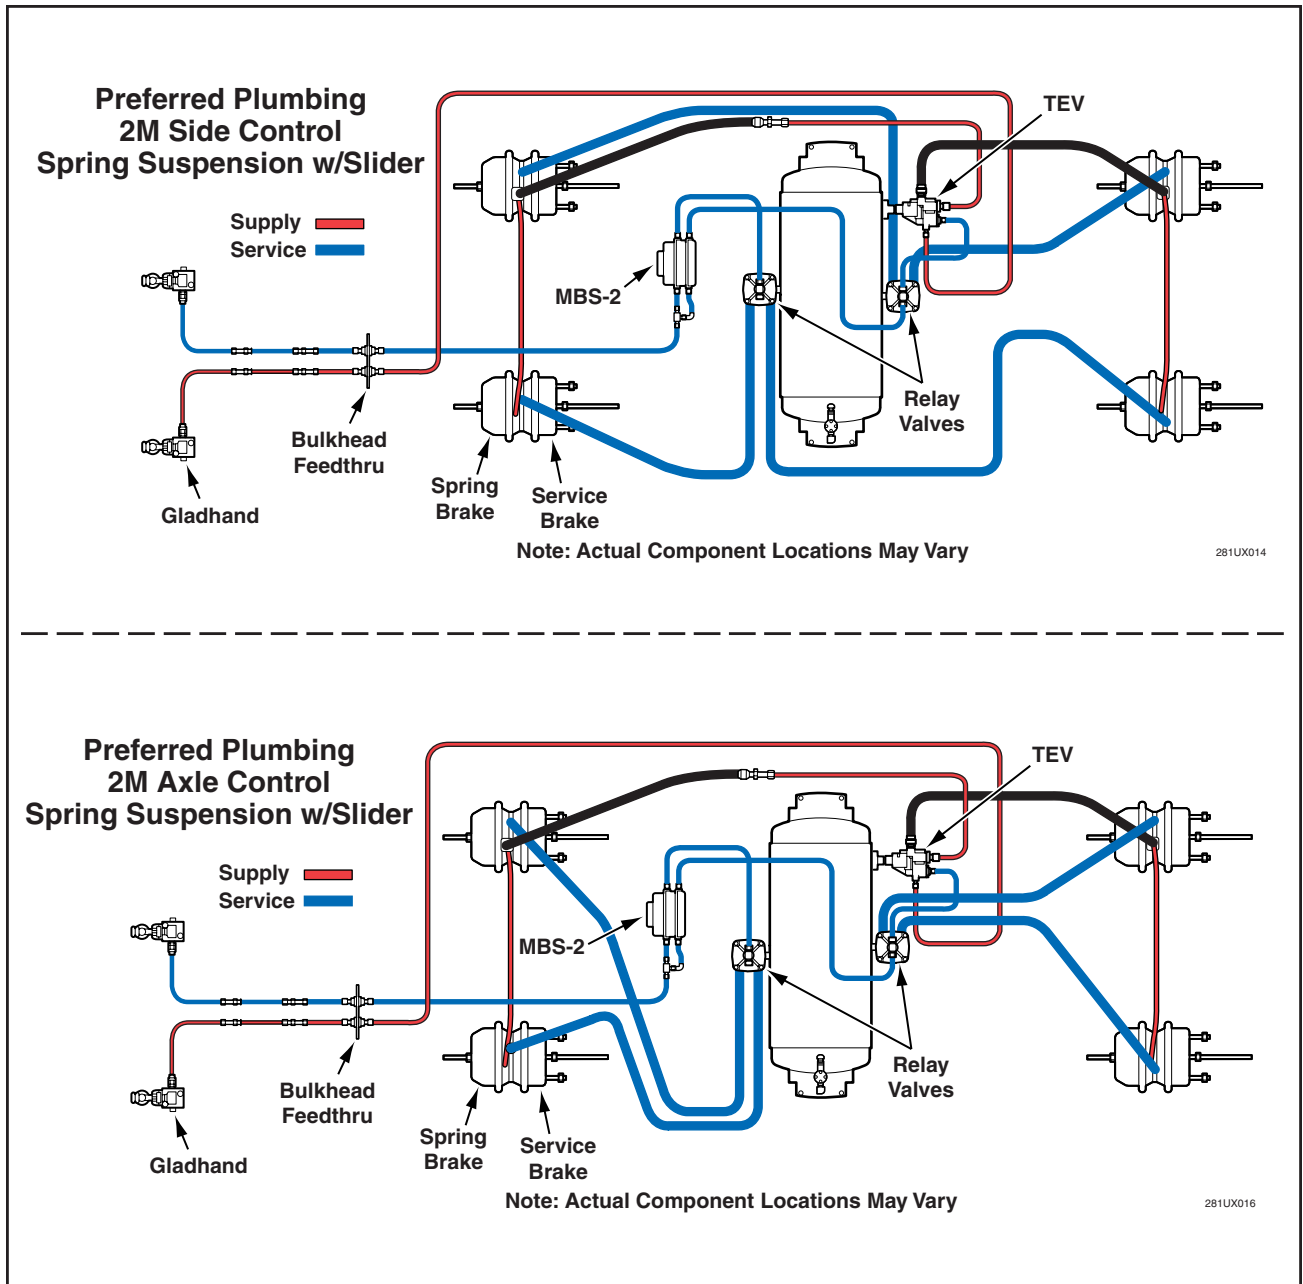

Figure 16, MBS-2 “Downstream” Air Supply Configurations (Preferred Plumbing)
2. Install the MBS-2 in the blue service line (see Figure 16).